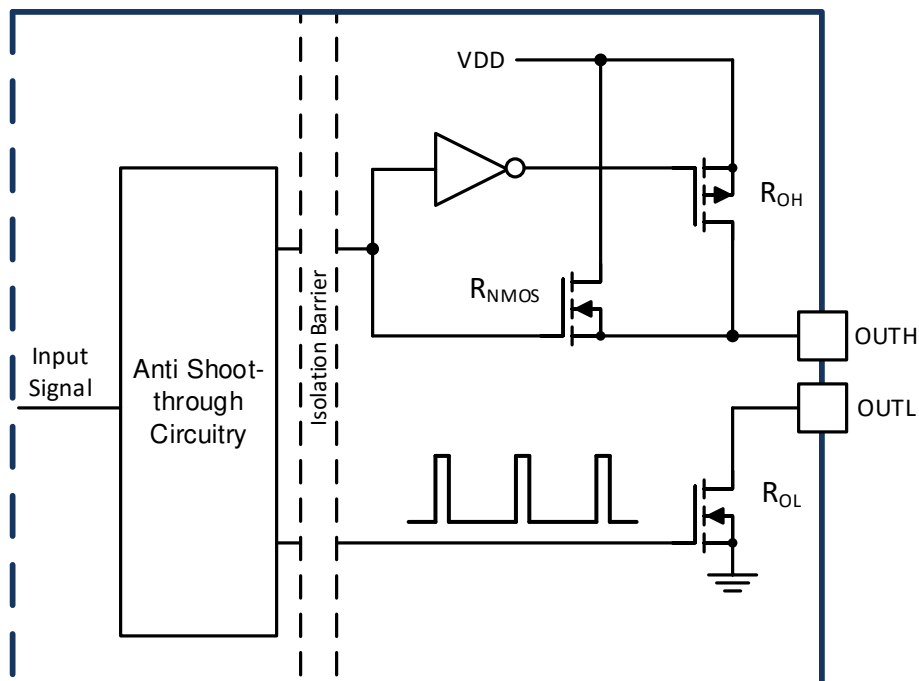

图 8-1. Gate Driver Output Stage
held in LOW state. The split output of the driver stage is depicted in 图 8-1. The driver has rail-to-rail output by implementing a hybrid pull-up structure with a P-Channel MOSFET in parallel with an N-Channel MOSFET, and an N-Channel MOSFET to pulldown. The pull-up NMOS is the same as the pull down NMOS, so the on resistance R_{NMOS} is the same as R_{OL} . The hybrid pull-up structure delivers the highest peak-source current when it is most needed, during the miller plateau region of the power semiconductor turn-on transient. The R_{OH} in 图 8-1 represents the on-resistance of the pull-up P-Channel MOSFET. However, the effective pull-up resistance is much smaller than R_{OH} . Because the pull-up N-Channel MOSFET has much smaller on-resistance than the P-Channel MOSFET, the pull-up N-Channel MOSFET dominates most of the turn-on transient, until the voltage on OUTH pin is about 3 V below VDD voltage. The effective resistance of the hybrid pull-up structure during this period is about $2 \times R_{OL}$. Then the P-Channel MOSFET pulls up the OUTH voltage to VDD rail. The low pull-up impedance results in strong drive strength during the turn-on transient, which shortens the charging time of the input capacitance of the power semiconductor and reduces the turn on switching loss.
- $R_{\text{OH_EFF}}$ is the effective internal pull up resistance of the hybrid pull-up structure, shown in 图 8-1, which is approximately $2 \times R_{\text{OL}}$, about 0.7Ω . This is the dominant resistance during the switching transient of the pull up structure.